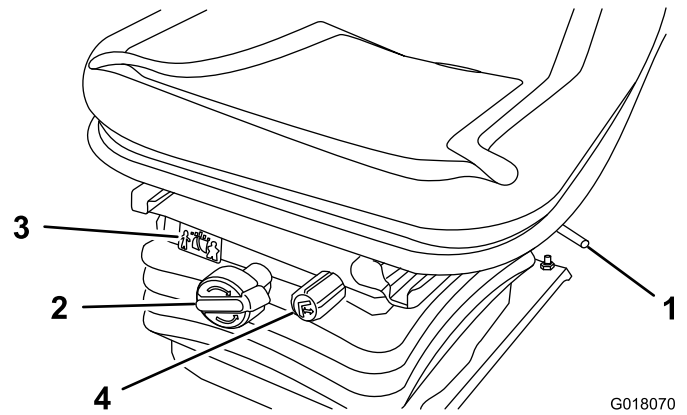

Figure 2
- Adjusting Lever—Fore and aft seat adjustment (Figure 2).
- Weight Adjusting Knob—Adjust for operator weight (Figure 2).
- Weight gauge—Indicates when seat is adjusted to the weight of the operator (Figure 2).
- Height Adjusting Knob—Adjust for operator height (Figure 2).